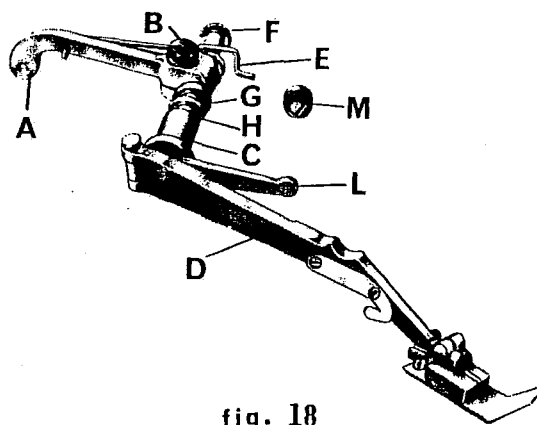
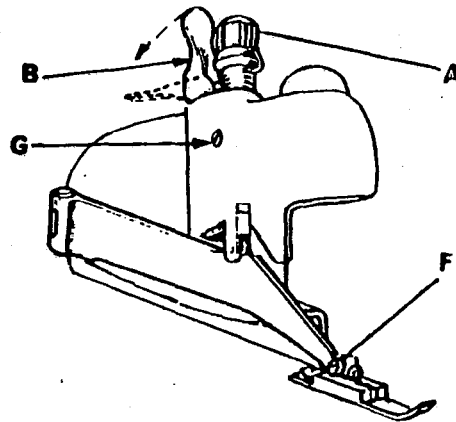

fig. 18
fig. 22
e) Positioning of presserfoot arm (fig. 18)
- Press down on lever 'B' (fig. 22) and swing out presserfoot holder 'D' (fig.18)
- Loosen slightly screw 'B' (fig. 18) to release spring pressure on lifter lever arm 'A' (fig. 18).
- Lift up lever 'B' (fig. 22) to engage presserfoot holder arm.
- Loosen screw in stop 'M' (fig. 18).
b) Changing the needle (fig. 22)
- 3 - Press down on lever 'B' (fig. 22) and swing out presserfoot holder 'D' (fig. 18)
c) Setting the presserfoot (fig. 22)
- 1 - With presserfoot arm 'D' (fig. 18) locked in position, turn handwheel clockwise till needle point enters presserfoot.
- 2 - Loosen screw 'F' (fig. 22) and center presserfoot in relation to the needle.
- 4 - To increase or decrease the pressure of the presserfoot, loosen screw 'G' (fig. 22) with wrench No. 633-742, and turn knob 'A' (fig. 22).